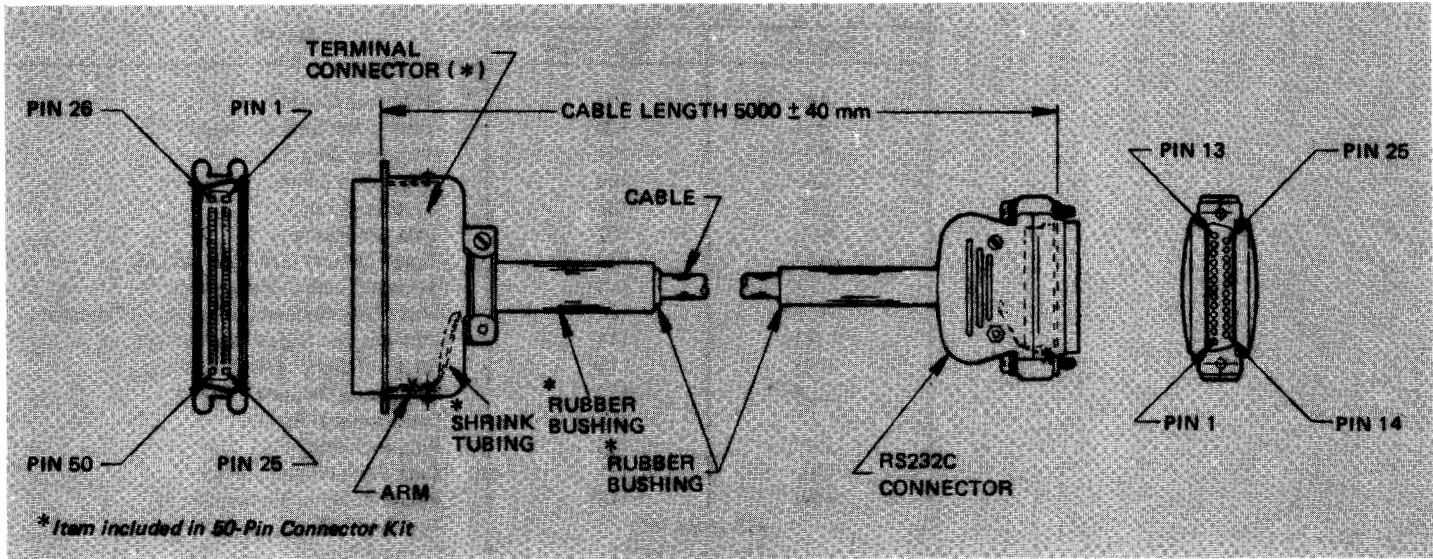

Figure 2-14. 13222 Series Cable Fabrication (Port 1)
**CABLE FABRICATION** ..... Parts for cable fabrication are available from Hewlett-Packard if you should need to fabricate your own cable. The required parts are shown in figures 2-14 and 2-15.
Instructions for fabricating an HP 13222 series cable (figure 2-14) are as follows: